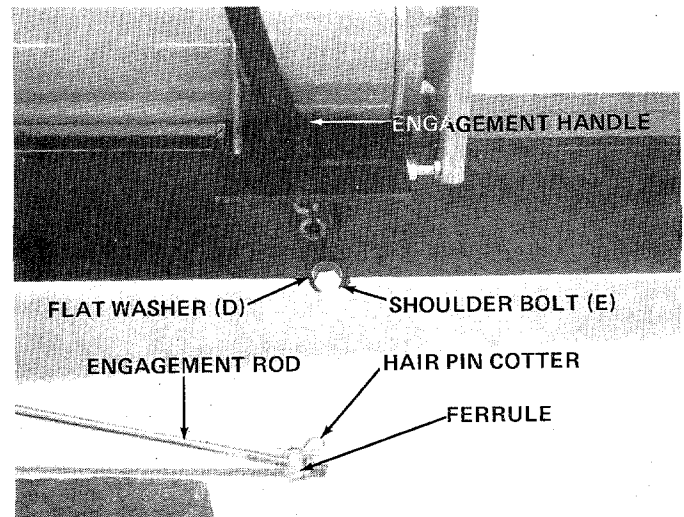

FIGURE 3
3. Secure engagement handle to beam with shoulder bolt (E) and flat washer (D). See figure 3.
5. Secure engagement rod to engagement handle with hairpin cotter. See figure 3.